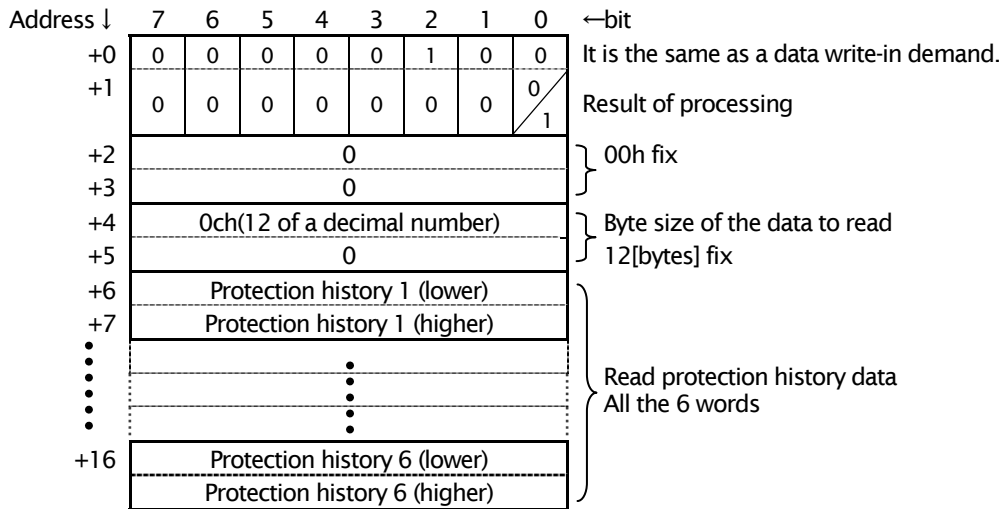

Figure 3.17 Data composition of the master station data readout check SDU (Protection history readout result)
- 4) As a data readout demand, OPCN66-Z gives a S/F (success or failure of processing) bit to 1st word, and replies the protection history data read from the inverter (figure 3.17). 6 words protection history data are transmitted sequentially from the newest history. The bit configuration of protection history data is shown in table 3.6, and the contents of the protection code are shown in table 3.7. The contents of the protection history are the same as that of the protection history of the monitor display of a SET66-Z console. Also refer to the instructions manual of the main part of VF66 inverter collectively.